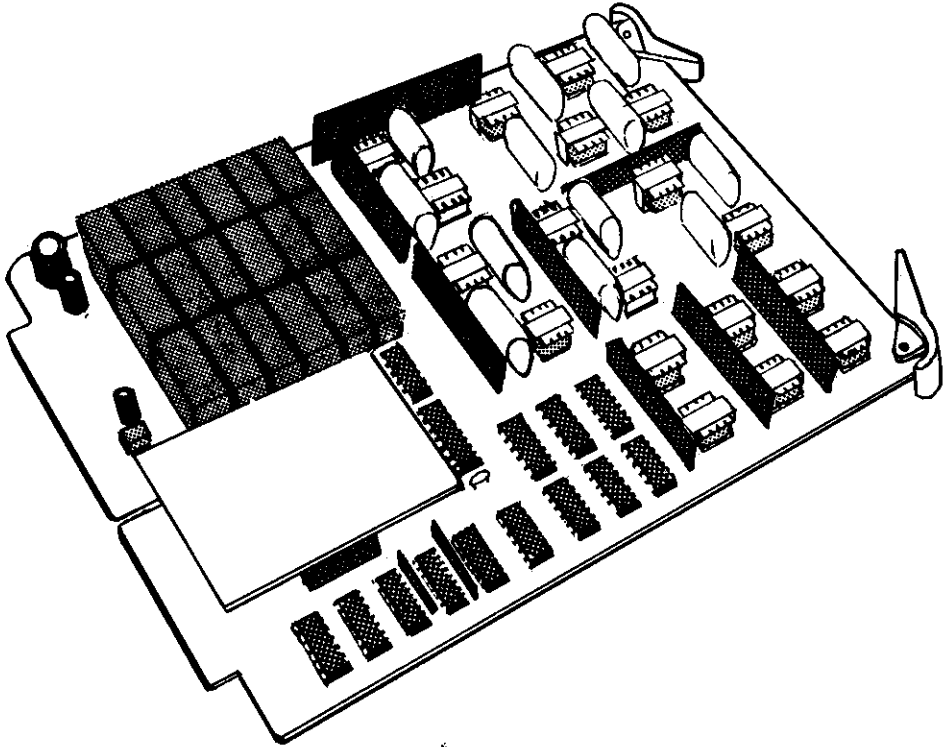

Figure 7-5 MLCU-6TA PCB, EK-616
- (d) **MLCU-6TA (Multi-Line Conference)**, (Figure 7-5) which provides circuitry for multi-line and multi-station conferencing. The MLCU-6TA also provides mounting for the optional GRDU-6A ground flash enable PCB.